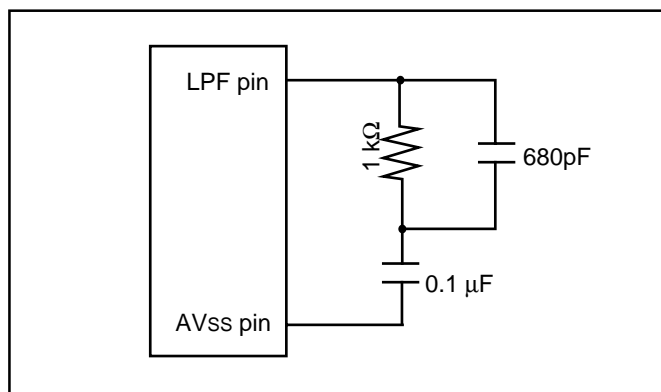

Fig. 2.6.59 LPF peripheral circuit
- All passive components must be located as close as possible to the LPF pin. For recommended values, see Figure 2.6.59.